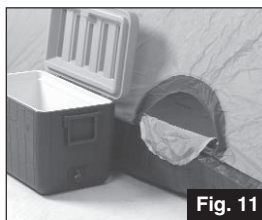

Fig. 11
1. To use as a cooler access, unzip other flap to make an avenue to bring beverages into tent. (Fig. 11)